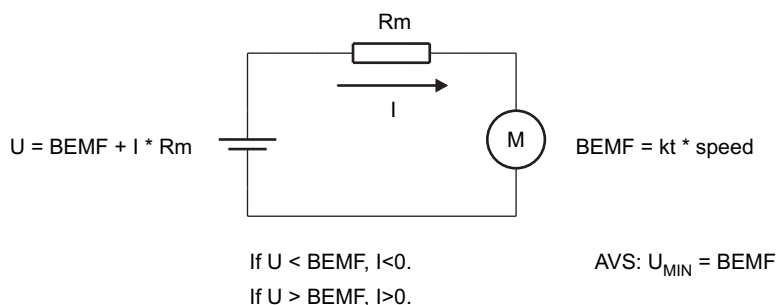

图 12. Mechanical AVS
Mechanical energy is typically returned to the power supply when the speed command is abruptly decreased. If the voltage applied to the phase becomes less than the BEMF voltage then the motor will work as a generator and current will flow from the motor back to VCC. This is illustrated in 图 12. To prevent this from happening, the DRV10964 buffers the speed command value and limits the rate at which it is able to change. The AVS function acts to ensure that the effective output amplitude (U) is maintained to be larger than the BEMF voltage. This prevents current from becoming less than zero. The value of BEMF used to perform this function is calculated by the motor Kt and the motor speed.